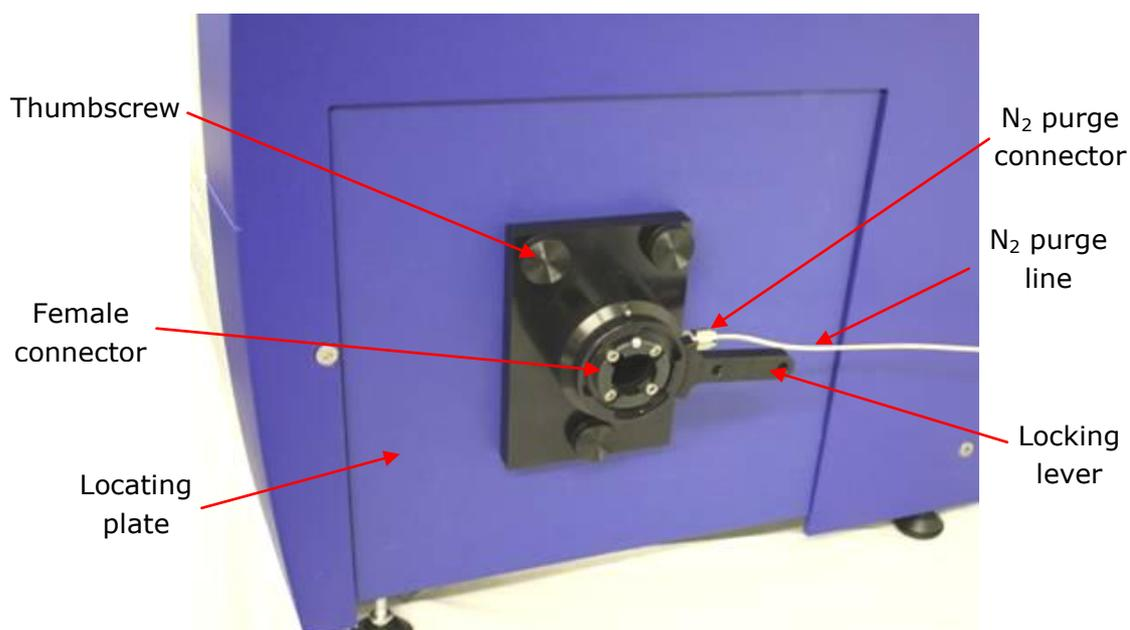

Figure 5.1: the SF.3 locating plate mounted on the Chirscan
Mount the SF.3 locating plate on the spectrometer using the three knurled thumb screws (Figure 5.1, below). The centre of the female connector on the spectrometer should be at a height of between 212 mm and 214 mm above the bench; if necessary alter the height using the adjustment in the spectrometer feet, ensuring that the instrument is level when the adjustment has been made.
9. If measurements are to be made below 200 nm, connect the nitrogen purge gas supply to the purge gas connector indicated in Figure 5.1.